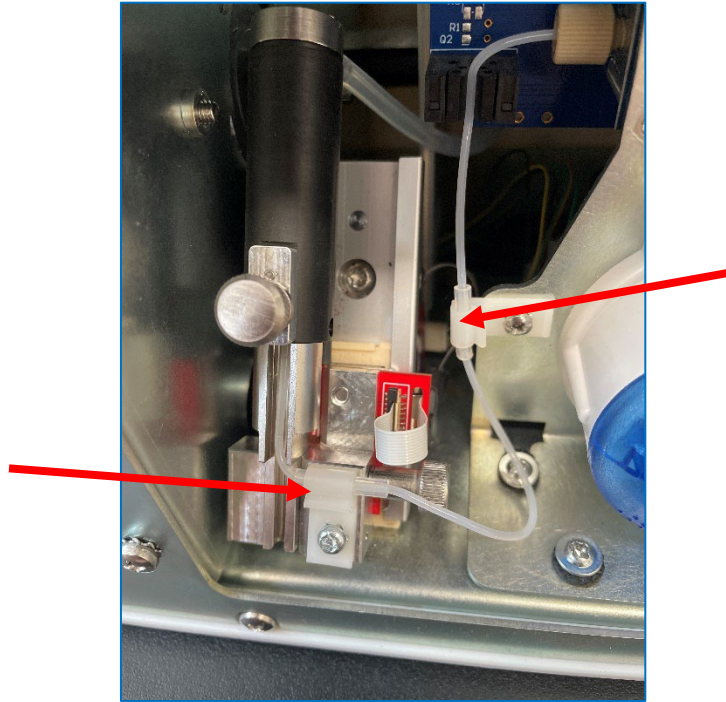

Figure 17
14. Re-Insert Needle-to-Reading Cell Tubing back into retention clips. See Figure 17.